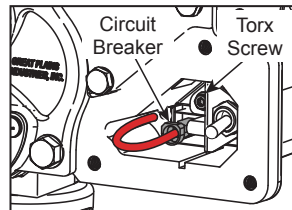

Figure 25
3. Remove the torx head screw, then remove the switch assembly (see Figure 25).